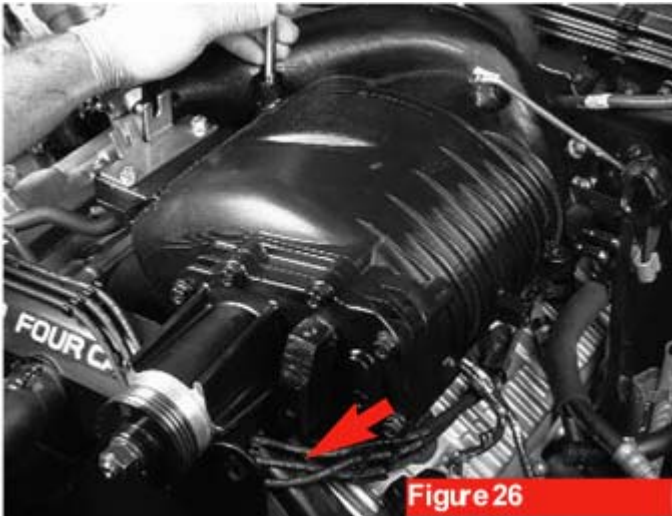

Figure 26
3. **Lower the supercharger and manifold into place** making sure there are no hoses or wires in the way. The ignition wires should be routed beneath the supercharger's drive housing (see arrow, figure 26).